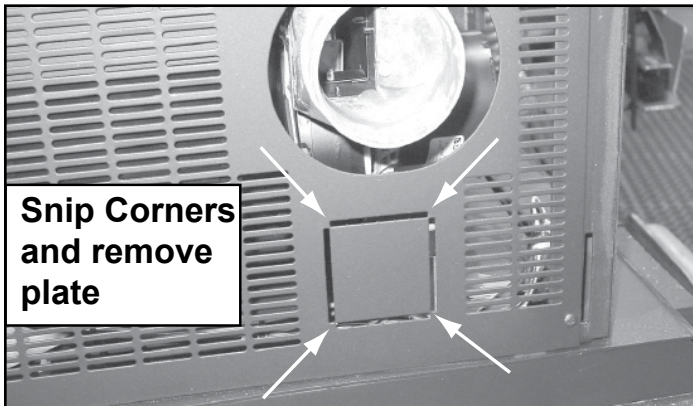

Figure 20.1
- Snip corners and remove plate (**Figure 20.1**).